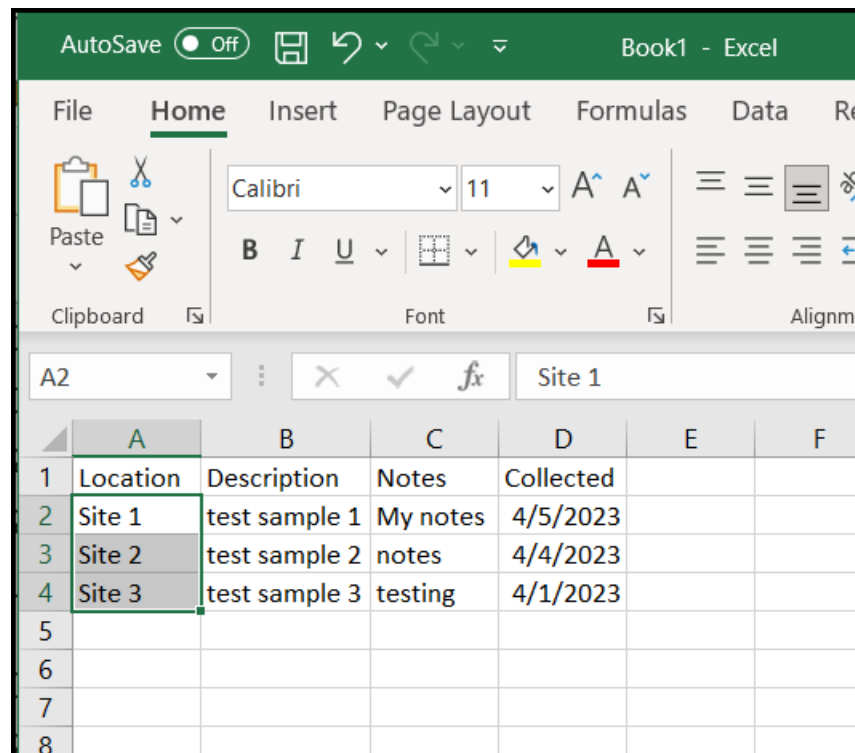

Figure 10 Excel Sample Data
1. Start Excel and enter data for one or more sample fields you want to import. Enter the data for at least three samples then select all data cells for the first sample field (see Figure 10).